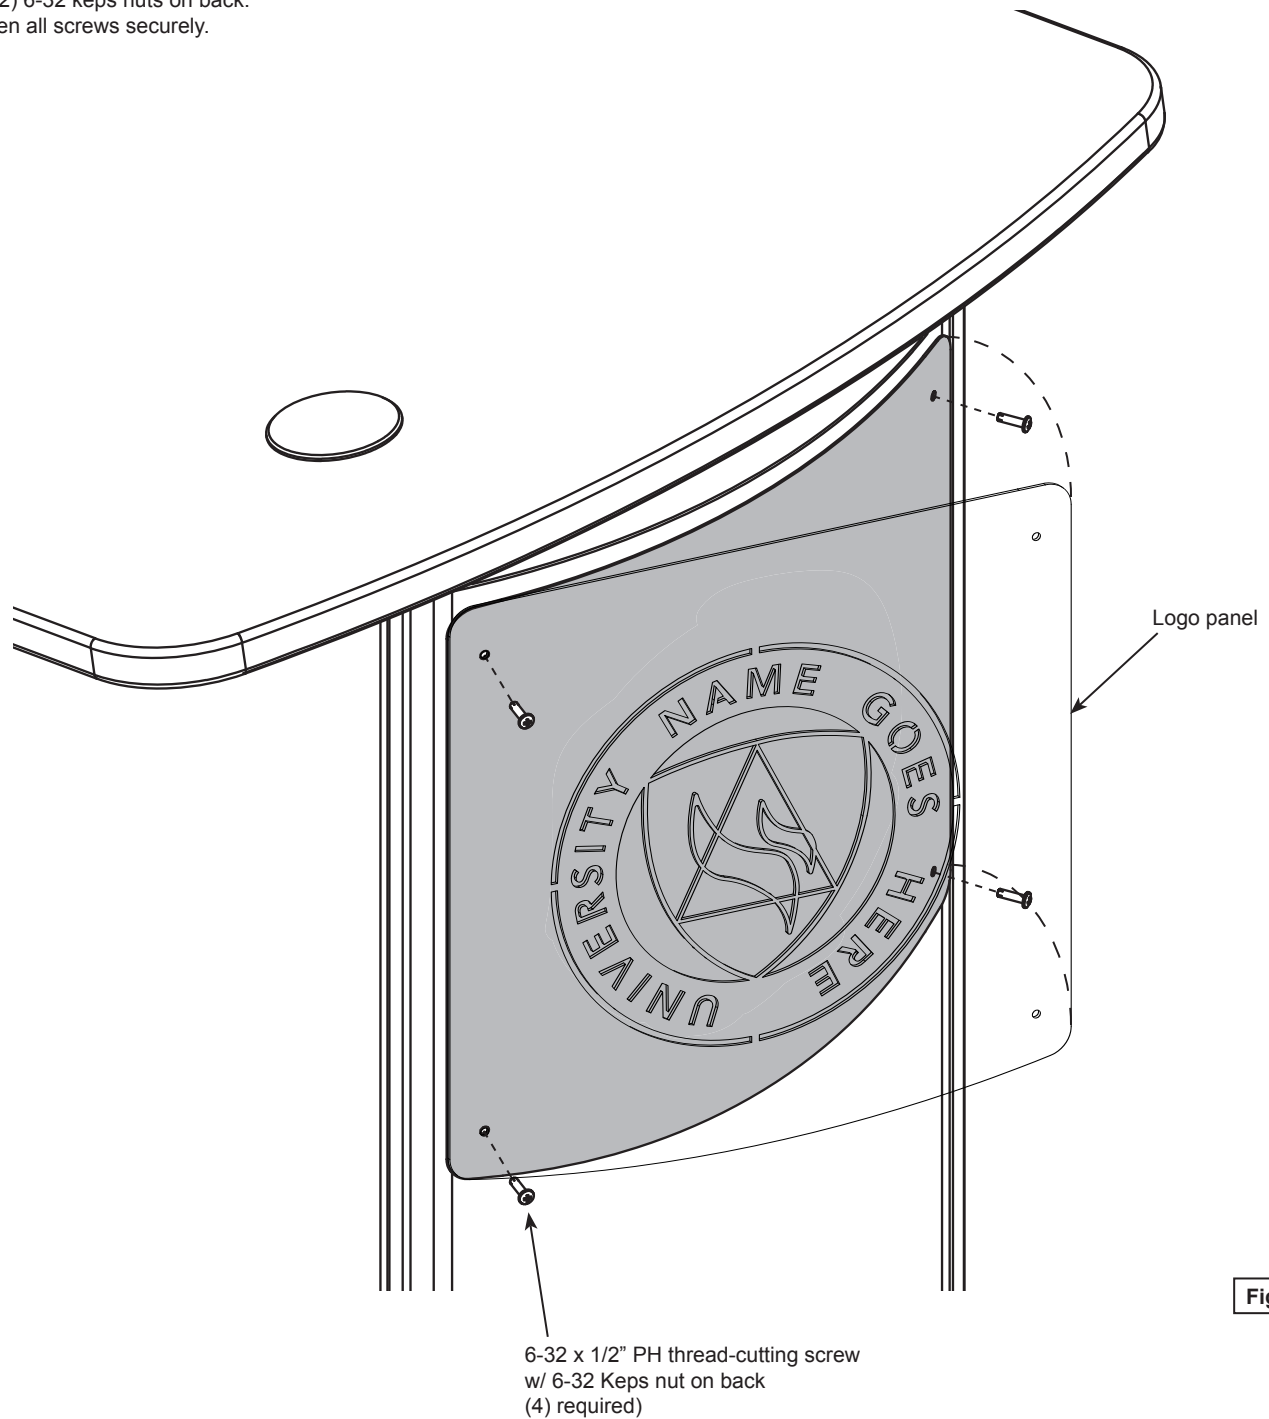

Figure 2
1. Attach the left side of the logo panel to the lectern with (2) 6-32 x 1/2" PH thread-cutting screws and (2) 6-32 keps nuts on back. **Figure 2.** Do not tighten completely.
3. Push the logo panel around the arched audience-side panel and secure the right side with (2) 6-32 x 1/2" PH thread-cutting screws and (2) 6-32 keps nuts on back.